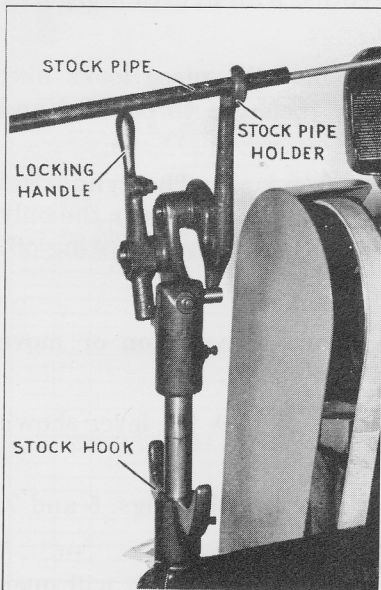

Fig. 2. Stock support
**Move the Stock Pipe.** Throw back the stock pipe locking handle, Fig. 2. Then, lift the front end of the pipe out of its cradle and set it on the stock hook.
**Place the Front End of the Stock Pipe in the Top Crotch of the Stock Pipe Holder.** This is shown in Fig. 2.
**Insert Stock in Machine End of Stock Pipe.** See Fig. 2, Booklet No. 1.